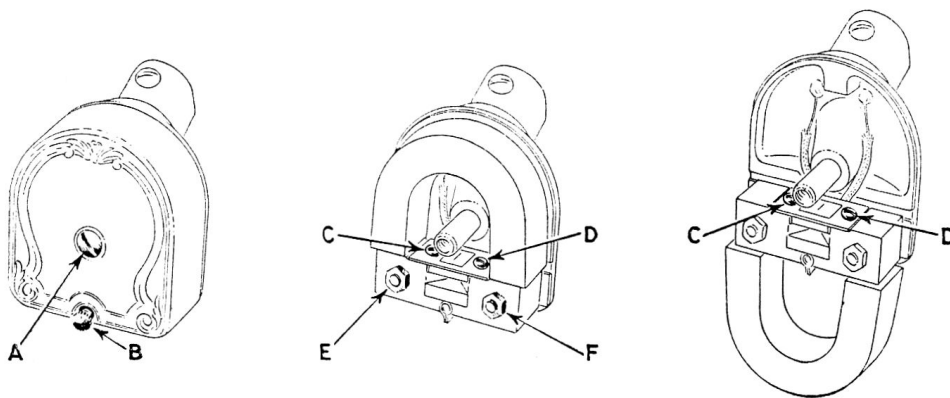

Figure 5—Disassembling the magnetic pick-up
- (a) Remove screws A and B (See Figure 5) from the pick-up, and remove the cover thereby released.
- (b) Mark the magnet poles and the pole pieces so that when they are replaced they will be in their original position. The magnet may now be released. Place a keeper such as a large nail across the magnet poles and remove the magnet from the pole pieces. Another way is to slide the magnet over the pole pieces, until it is on the opposite side of the armature adjusting screws. (See Figure 5.)
- Unsolder the leads to the coil at the terminal strip inside of the pick-up case. Remove nuts E and F, Figure 5, and release the pole pieces from the back support. Now remove screws C and D and disassemble the pole pieces, armature and coil. The old rubber should be completely removed from all parts, and the parts should be scraped clean with a knife.